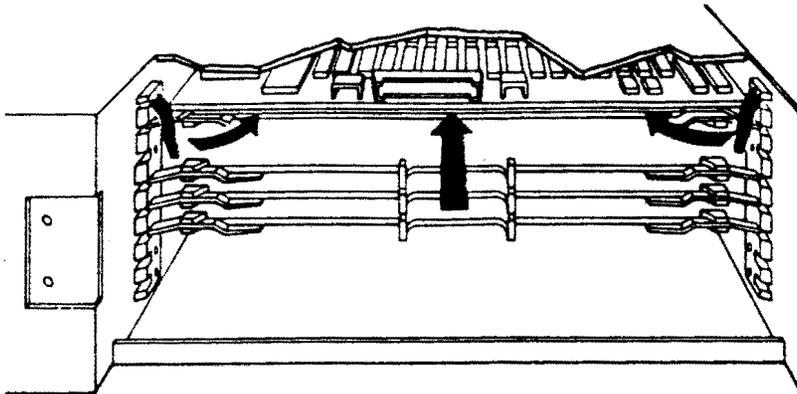

Figure 6-7: Module Replacement
4. Slide the module into the slot until firmly seated, and close the locking levers (Figure 6-7).